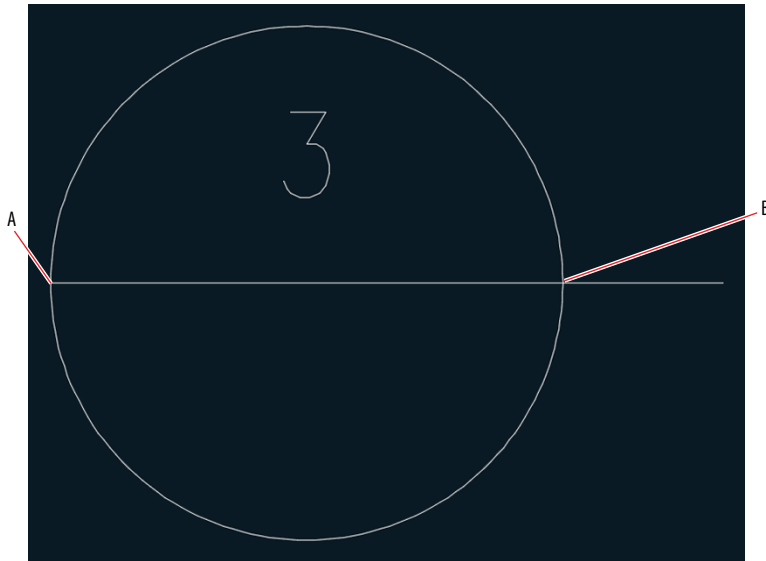

FIGURE 10.6 Mirroring text to create a duplicate text object
1. Click the Mirror tool on the Modify panel, select the text object (3), and press Enter. Click the endpoint at point A and the center point at B in Figure 10.6 to define the mirror. The command line reads as follows: